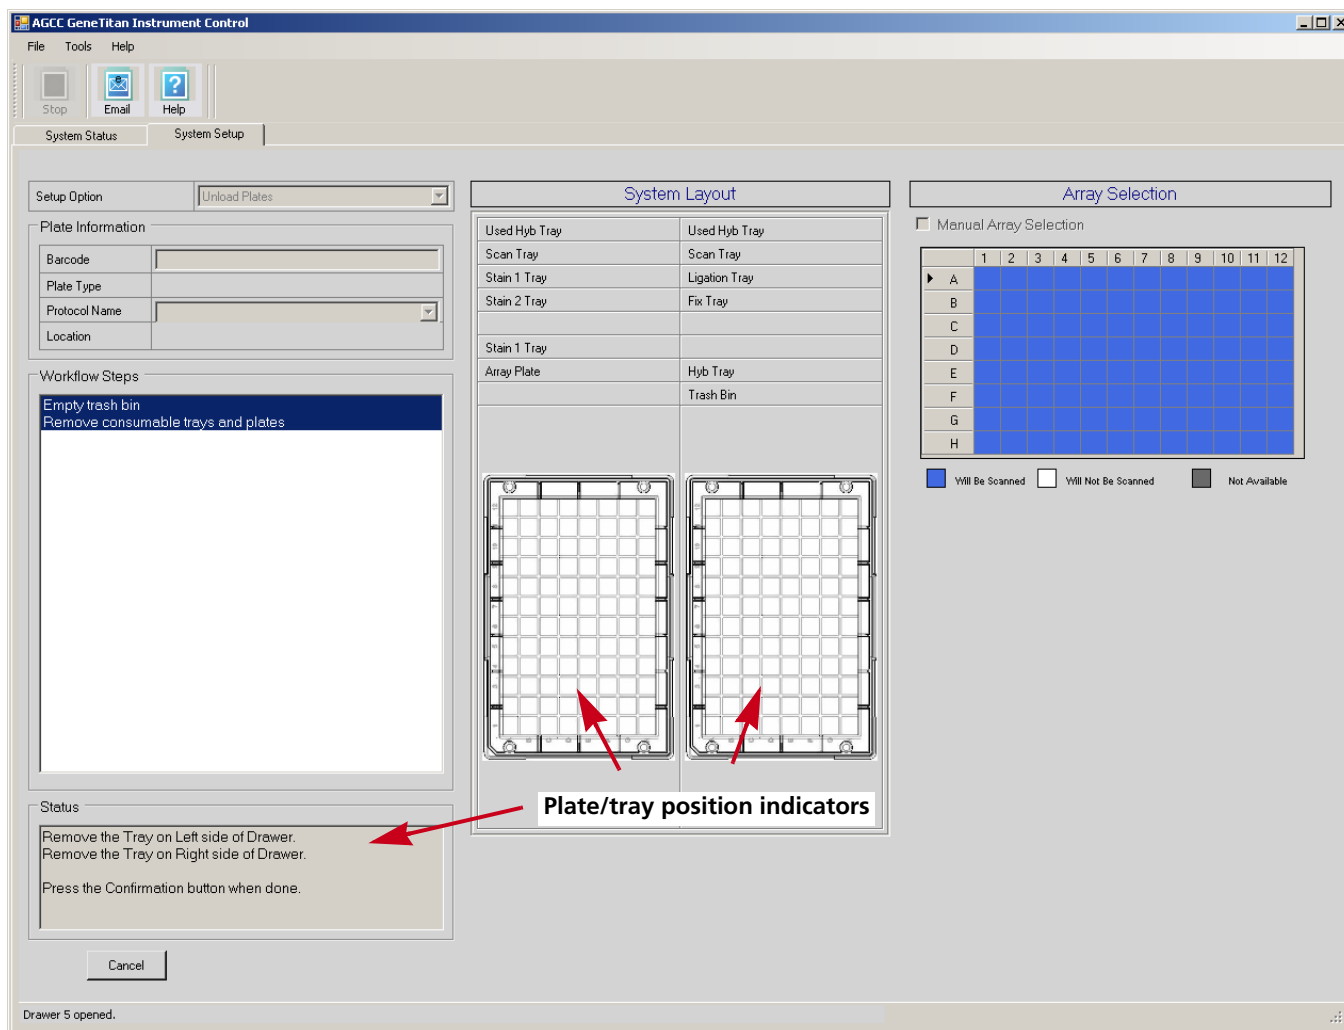

Figure 19 Unload tray(s)
- b. The status box prompts you to remove the tray or plate and the system layout indicates the array or tray to remove (Figure 19).
- c. Remove any plate, plate receptacle, or tray from the drawer (Figure 19), then press the **Confirmation** button on the front of the instrument.